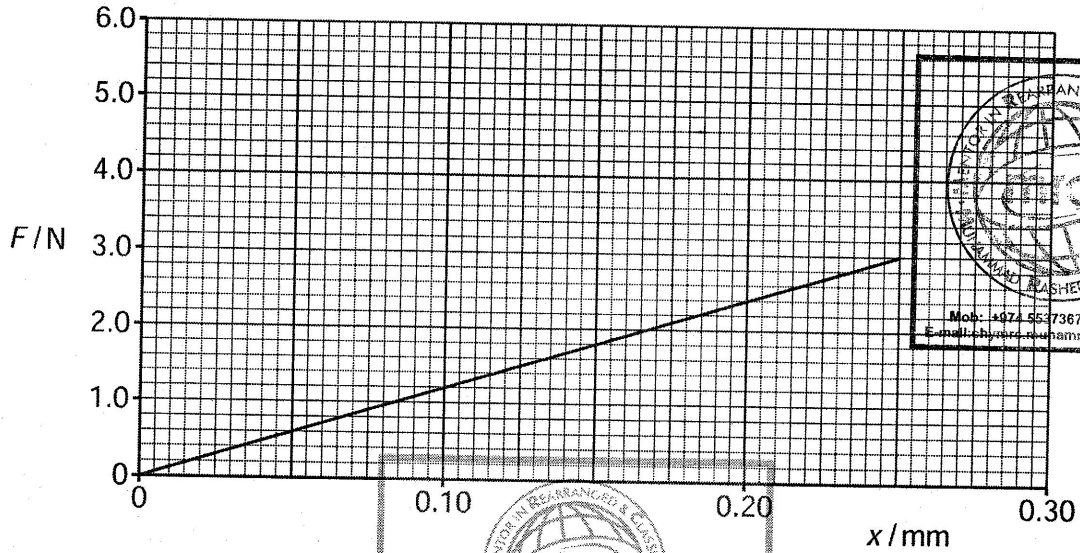

Fig. 5.1
(b) A load  $F$  is suspended from a fixed point by a steel wire. The variation with extension  $x$  of  $F$  for the wire is shown in Fig. 5.1.
(i) State two quantities, other than the gradient of the graph in Fig. 5.1, that are required in order to determine the Young modulus of steel.
- (ii) A load of 3.0 N is applied to the wire. Use Fig. 5.1 to calculate the energy stored in the wire.
On Fig. 5.1, sketch the variation with  $x$  of  $F$  for the copper wire for extensions up to 0.25 mm. The copper wire is not extended beyond its limit of proportionality. [2]